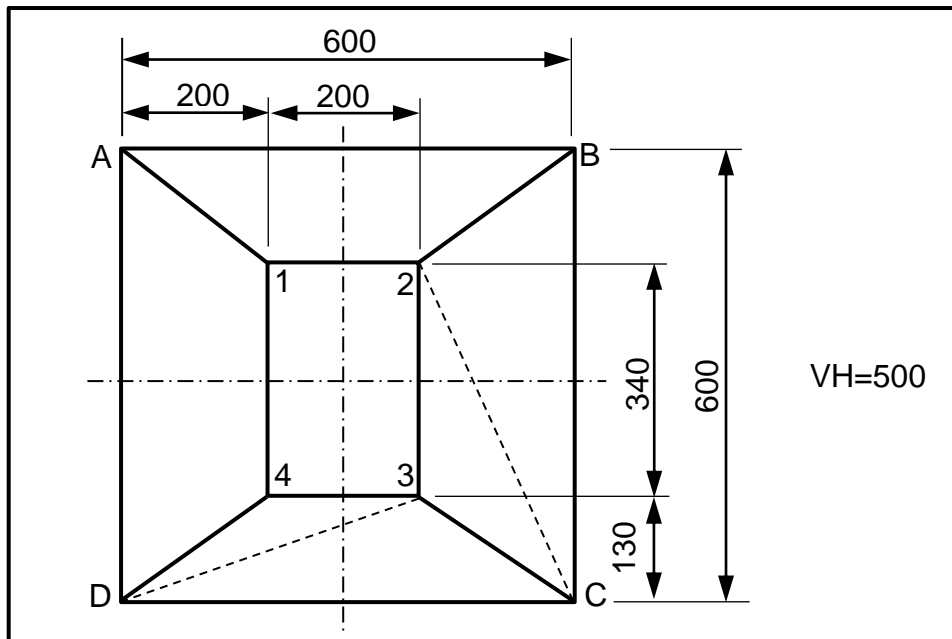

FIGURE 11.3
11.3 FIGURE 11.3 below shows a square-to-rectangle on-centre hopper with a vertical height (VH) of 500 mm.